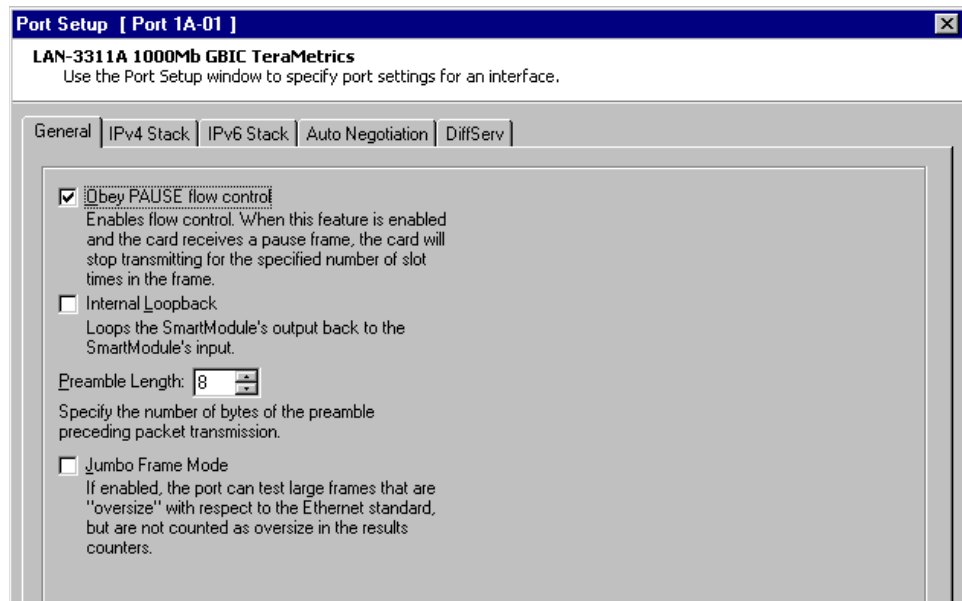

Figure 8-34. Port Setup Window
- 4 Choose **Port Setup**. (Figure 8-34 contains an illustration of the *Port Setup* window that includes tabs for general gigabit setup, IPv4 stack configuration, and autonegotiation.)